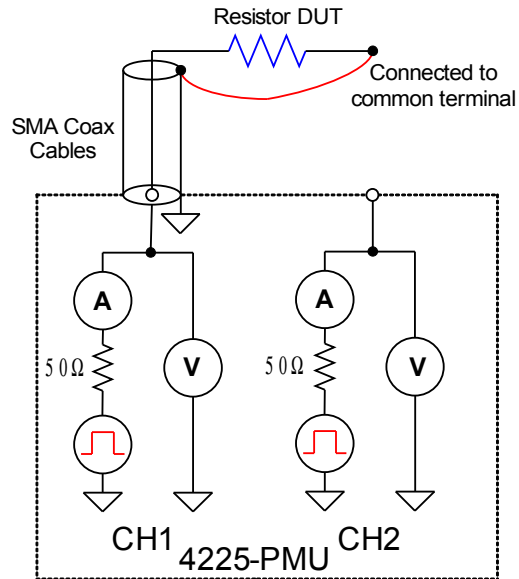

Figure 3. Connecting one channel of the PMU to a two terminal device
The Model 4225-PMU enables the user to make ultra fast I-V measurements on two terminal devices using either one or two channels of the PMU. Figure 3 shows the connections to a resistor using a single channel. Notice one end of the resistor is connected to the center conductor of the coax cable (HI) of CH1 and the other side of the resistor is connected to PMU common (LO), or the outside shield of the coax cable.